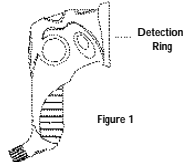

Figure 1
1. Pick up the Scanner pointing it parallel to the ground. (Figure 1)